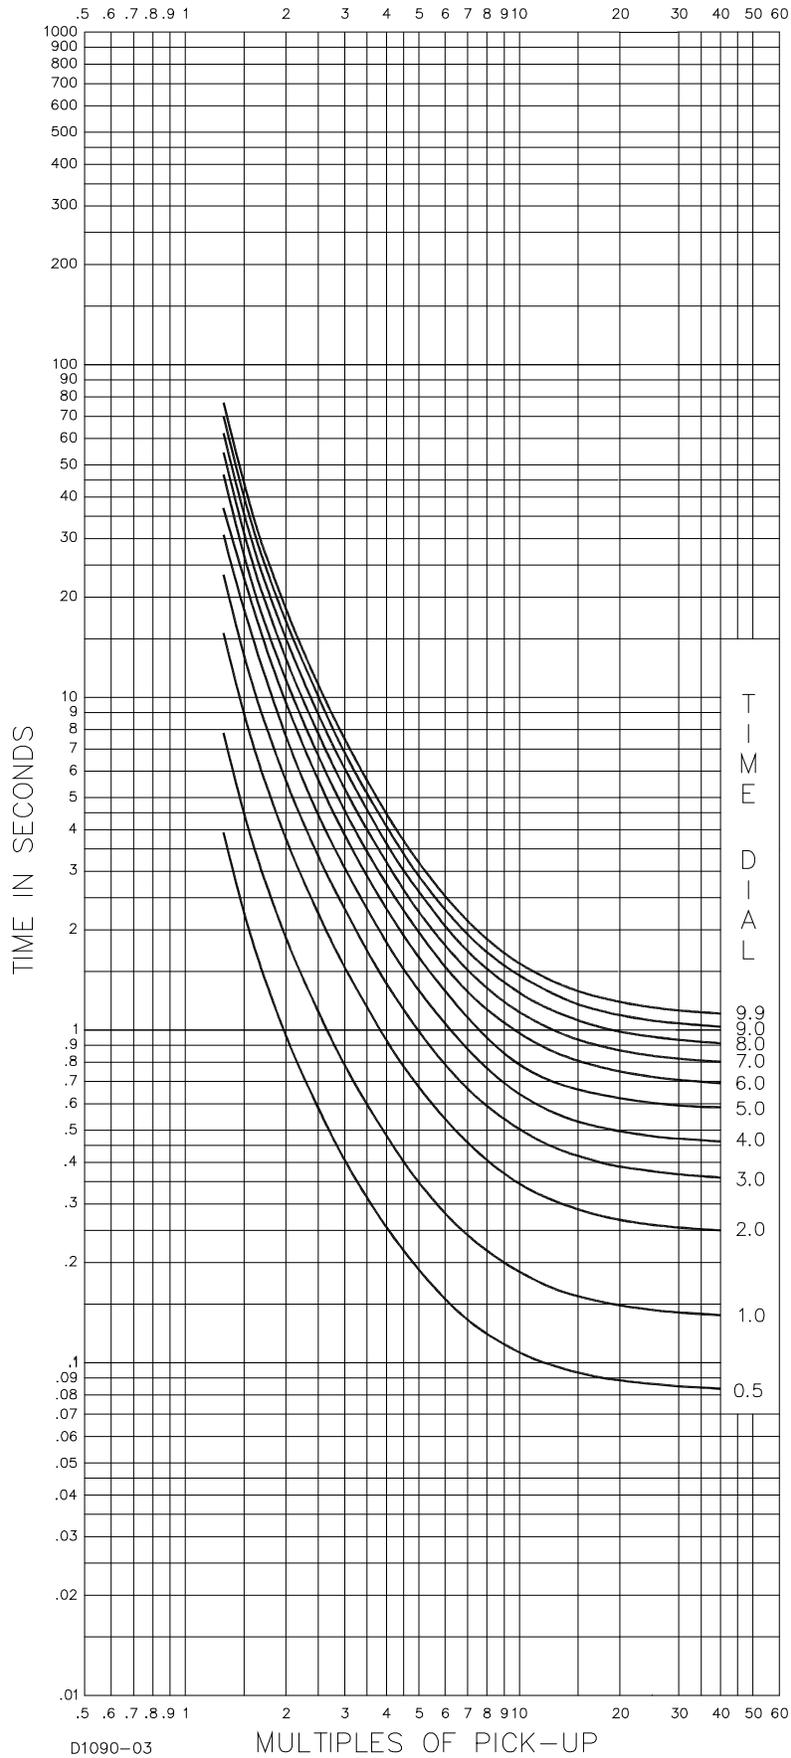

Figure 7-6. V-Very Inverse Curve (SW3-3 Off, Similar to ABB CO-9)
- V-Very Inverse (SW3-3 OFF, Similar to ABB CO-9): Figure 7-6